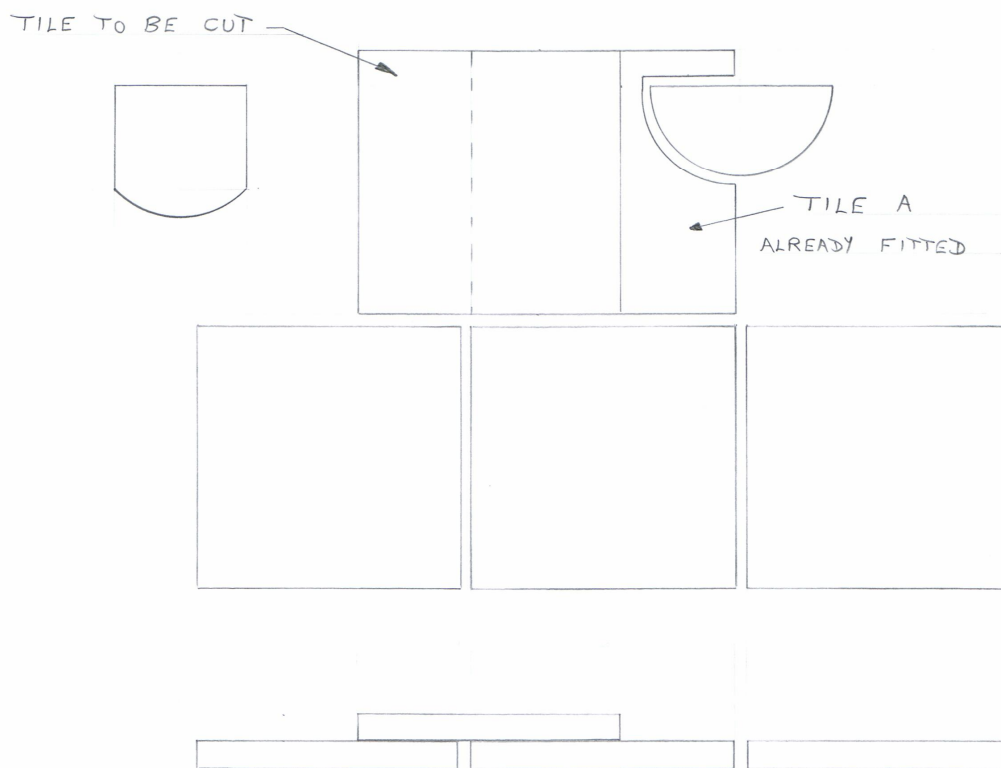

FIGURE 5
1. We will assume the correct detachable profiler (A) is in use and the correct distance between the detachable profiler (A) and the marker tip is set up.
2. Place the tile to be cut on top of the reference tile A as shown in Figure 5.